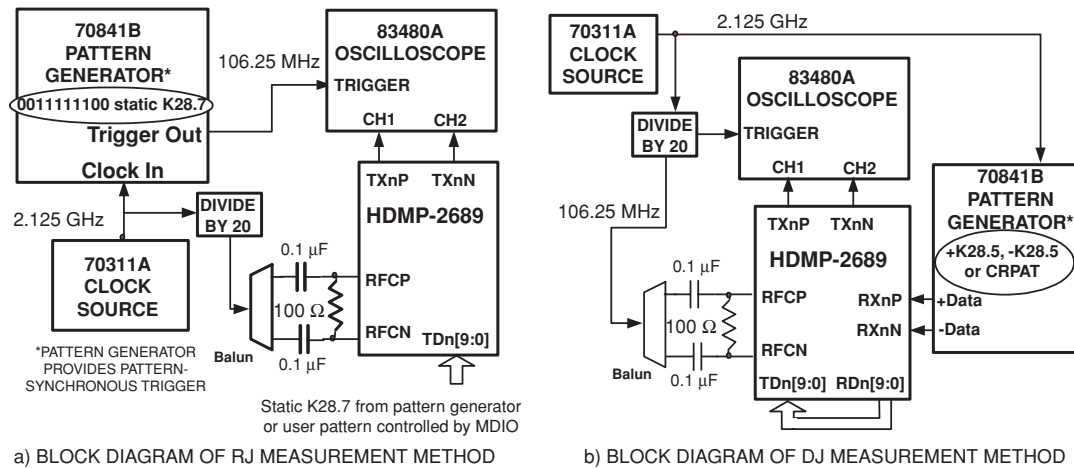

Figure 20. Transmitter DJ and RJ Measurement Method.
1. Defined by Fibre Channel specifications X3.230 – 1994 FC-PH, Annex A section A4.4 (oscilloscope method) and tested using setup shown in Figure 20.
2. Defined by Fibre Channel specifications X3.230 – 1994 FC-PH, Annex A section A4.4 and tested using the set up shown in Figure 20.
3. Defined by Fibre Channel Technical Report “Methodologies for Jitter specifications,” Annex B, and tested using the set up shown in Figure 20.